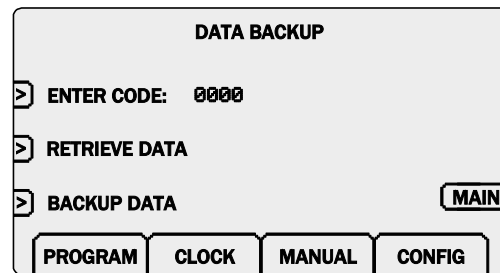

Figure 12 Data backup main screen 2
- 2 In order to protect the backup, a code must be entered. The default code is 7444, this can be changed or deactivated from the OPTIONS sub-menu. Enter the code and press ENTER on the keypad (Figure 12).
- 3 If the code is correctly entered the options RETRIEVE DATA and BACKUP DATA should appear (Figure 12). Press the BACKUP DATA key.
- 2 In order to protect the backup and retrieve of data, a code must be entered. The default code is 7444, this can be changed or deactivated from the OPTIONS sub-menu. Enter the code and press ENTER on the keypad (Figure 12).
- 2) In order to protect the backup and retrieve of data, a code must be entered. The default code is 7444, this can be changed or deactivated from the OPTIONS sub-menu. Enter the code and press ENTER on the keypad (Figure 12).